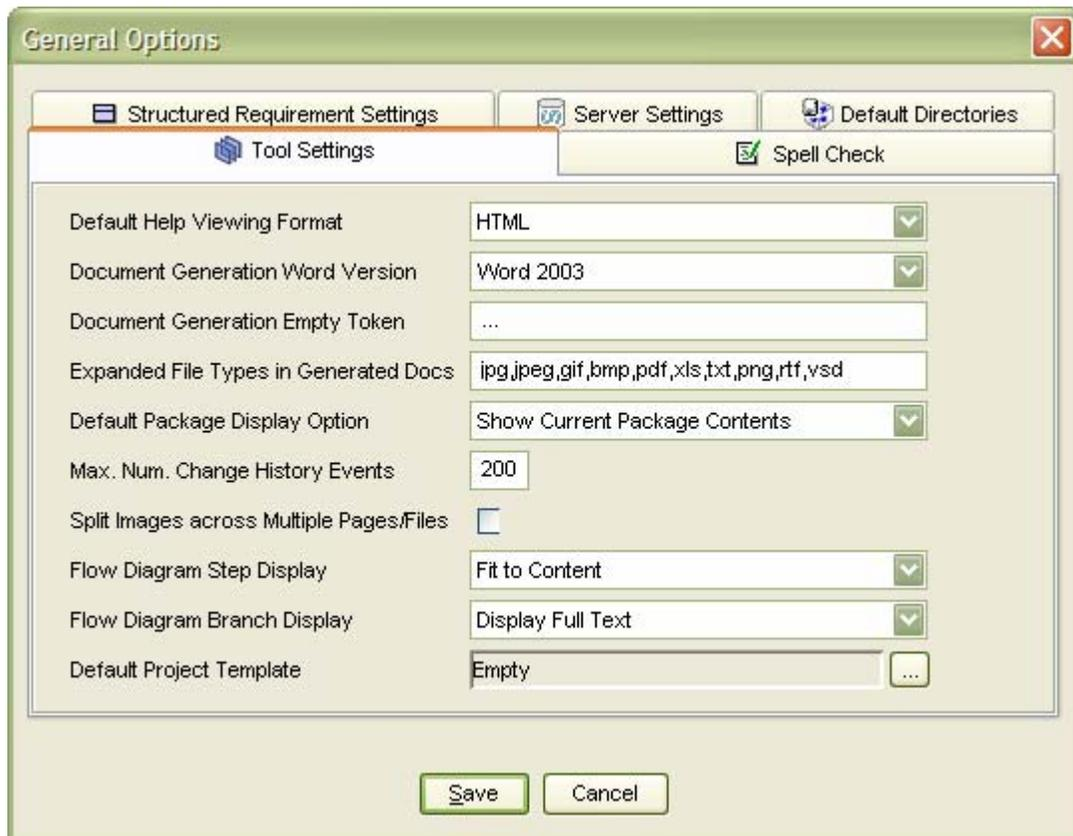

Figure 62 – General Options – Tool Settings screen
- Click on General Options, and the screen shown in Figure 62 below will appear.